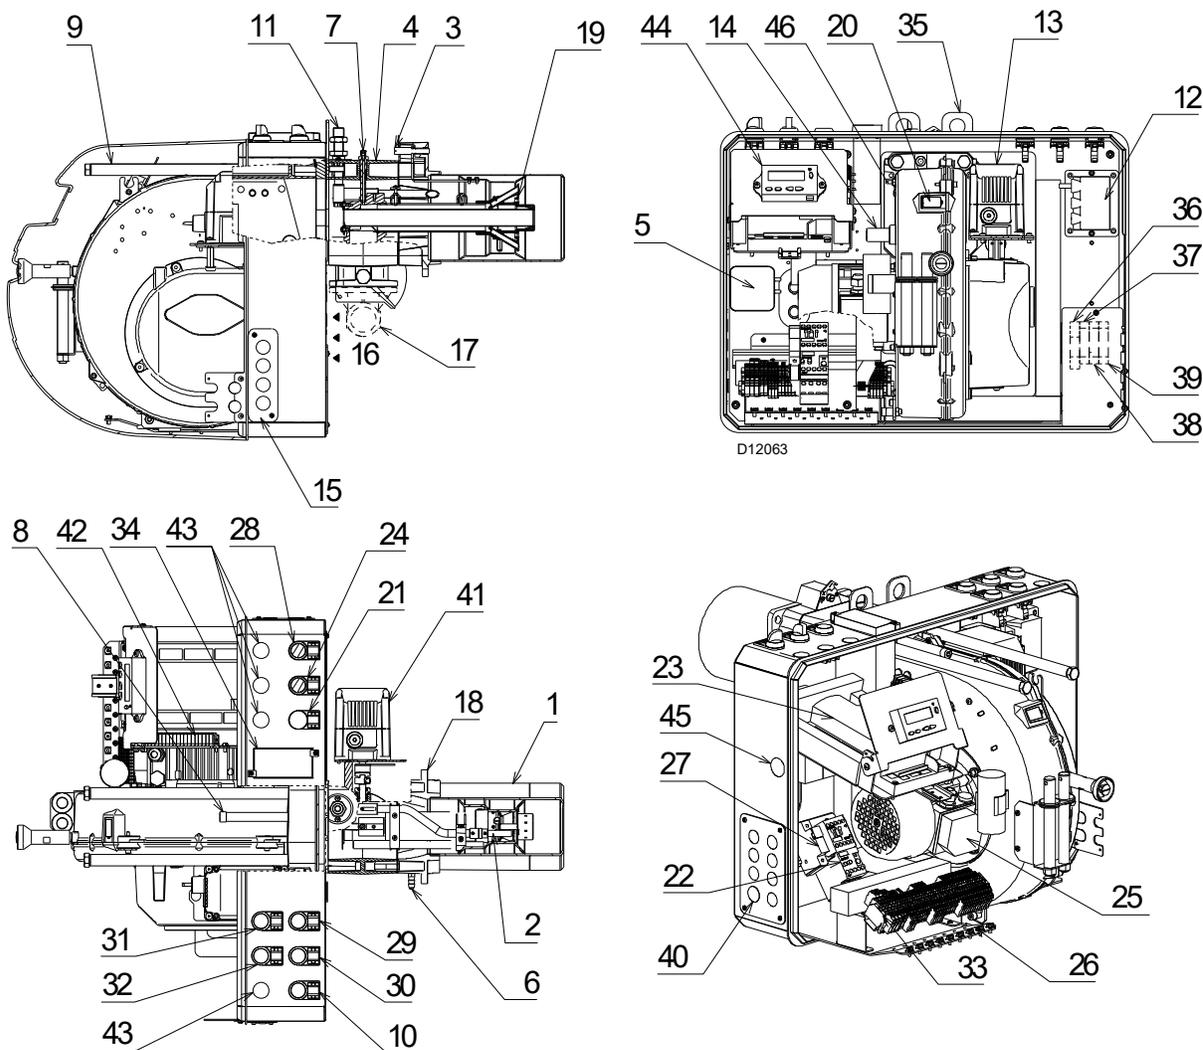

Fig. 1
(1) Reference conditions: ambient temperature 68 °F (20°C) - Barometric pressure 394" WC - Altitude 329 ft.
(2) Pressure at test point 7)(Fig. 1, page 7) with zero pressure in the combustion chamber and maximum burner output.
(3) Sound pressure measured in manufacturer's combustion laboratory, with burner operating on test boiler and at maximum rated output.
| 10 Signal "ALARM ON"   | 29 Signal "Power ON"                                       | If the alarm signal lamp 10)(Fig. 1) lights up, it indicates that the burner is in lock-out. To reset, press the reset pushbutton. |
| 12 Ignition transformer "TA"   | 31 Signal "Ignition ON"                                    | release by pressing the pushbutton on thermal overload, 22)(Fig. 1) see "Thermal relay calibration" page 21.                       |